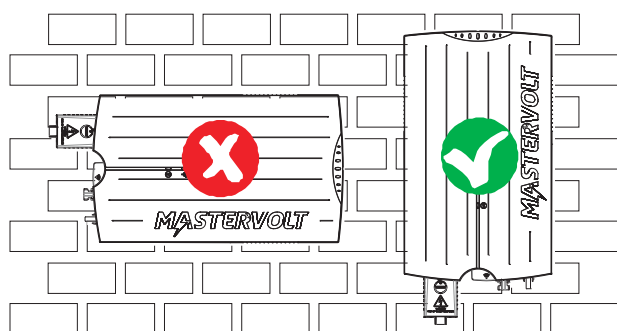

Figure 4-2
- Mount the Soladin vertically to a solid wall. A light weight wall may lead to resonance and is dissuaded (Figure 4-2).